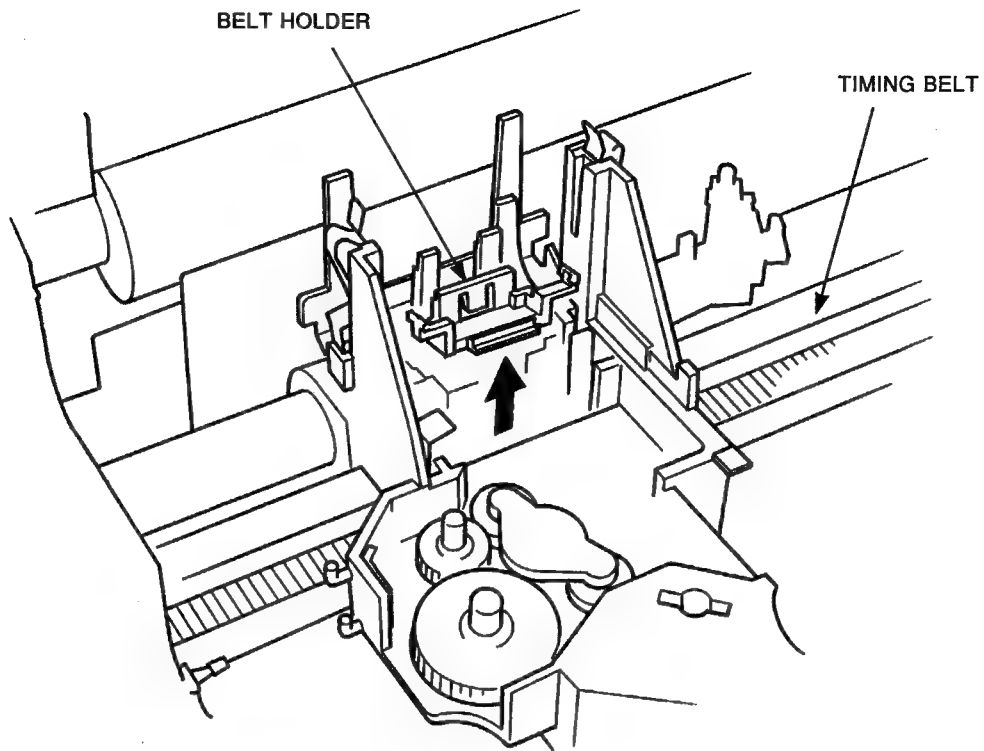

Figure 3-19 Belt Holder
3. With a screwdriver blade, unlock the locking tab and lift the belt holder out of the carrier (see Figure 3-19).